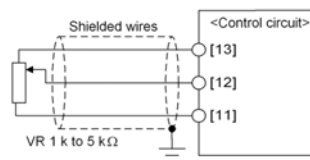

Figure 2.13 Connection of Shielded Wire
- Since weak analogue signals are handled, these signals are especially susceptible to the external noise effects. Route the wiring as short as possible (within 20 m) and use shielded wires. In principle, ground the shielding layer of the shielded wires; if effects of external inductive noises are considerable, connection to terminal [11] may be effective. As shown in Figure 2.13, ground the single end of the shield to enhance the shielding effect.